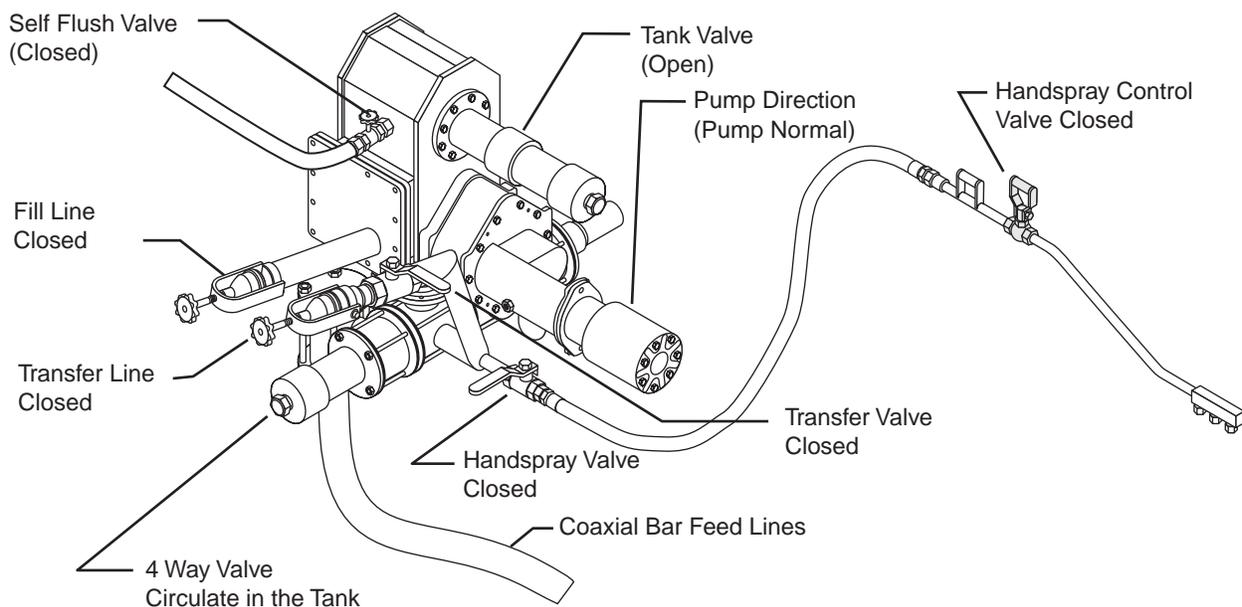

Figure 3. Valve Positions for Circulating in the Tank
1. Set all of the valve positions (see Figure 3).